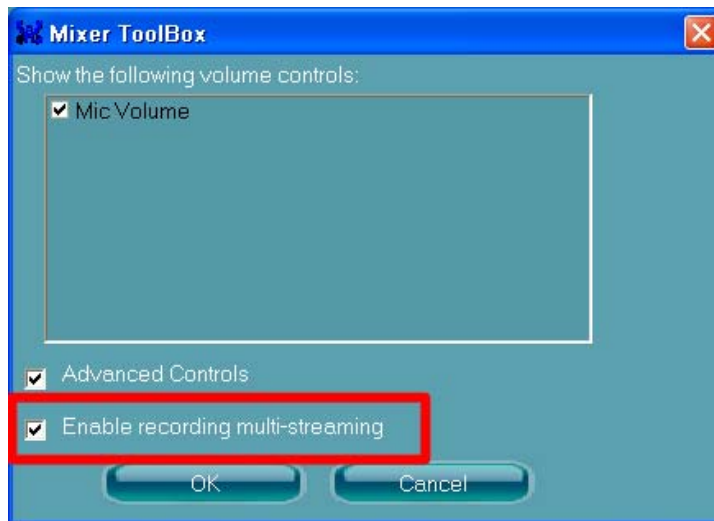

Figure B-4: Mixer ToolBox Screen
Step 6: The following screen appears (**Figure B-4**). Check the **Enable recording multi-streaming** box, and then click **OK**.